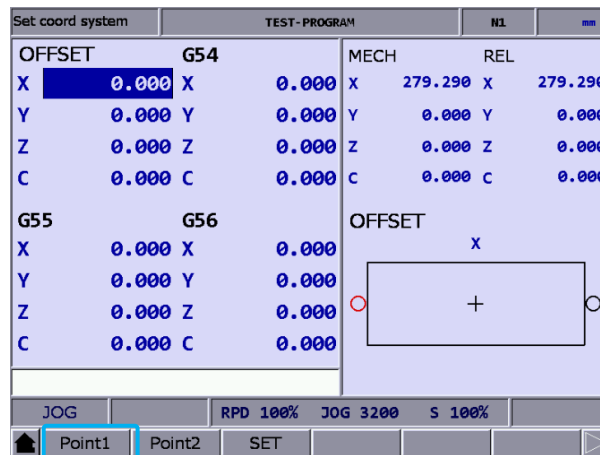

Figure 8.1.1.1
- (1) Set the system to JOG or MPG mode and move the machine axis to the initial contact point of the workpiece in X-axis direction.
- (2) Go to the SET L/2 setting page.
- (3) Press **Point1** and the circle on the left side of the rectangle becomes red, as shown in Figure 8.1.1.1, meaning the machine coordinates of the first point is recorded.